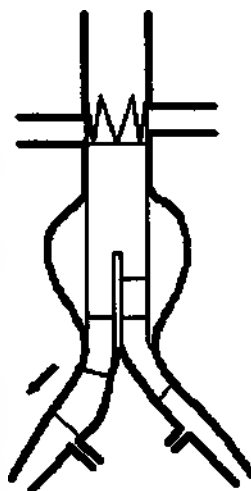

Fig. 14 Deploy the cuff Stent Graft in the long branch of AAA Stent Graft
- Deploy the cuff stent graft under monitoring, and withdraw the delivery system and guidewire. **(Fig. 14)**